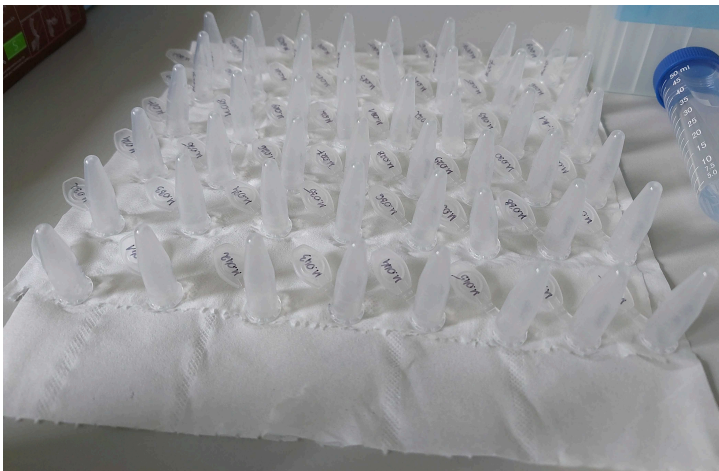

Figure 2.1. Drying the DNA pellets after extraction.
- 4.17 Let the pellets air-dry for 01:00:00 at room temperature by placing inverted tubes on a paper towel (Figure 2.1.). Be careful not to prolong this step to avoid overdrying. Alternatively, remove any remaining liquid by careful aspiration with a pipette tip and leave the tubes open for 5 min. 1h